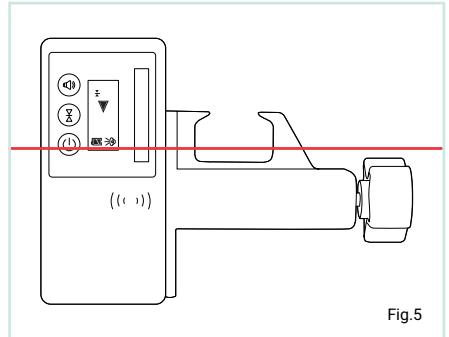
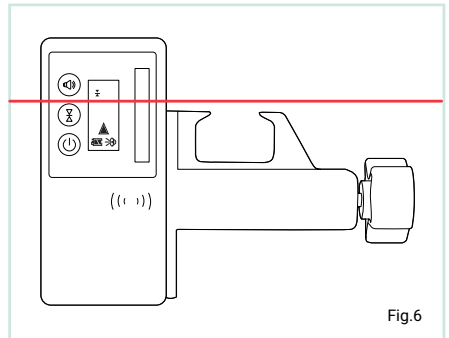

Fig.5
Fig.6
- Move the detector up or down according to the direction arrows on the LCD screen (Fig.5 & Fig.6).